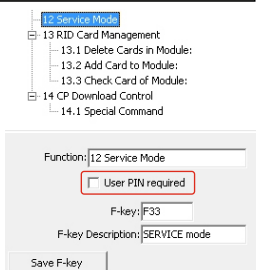

Fig. 2 Tab F - keys
5. Click on row *F33 SERVICE Mode* and uncheck the box *User PIN required* from the settings (see Fig. 2).